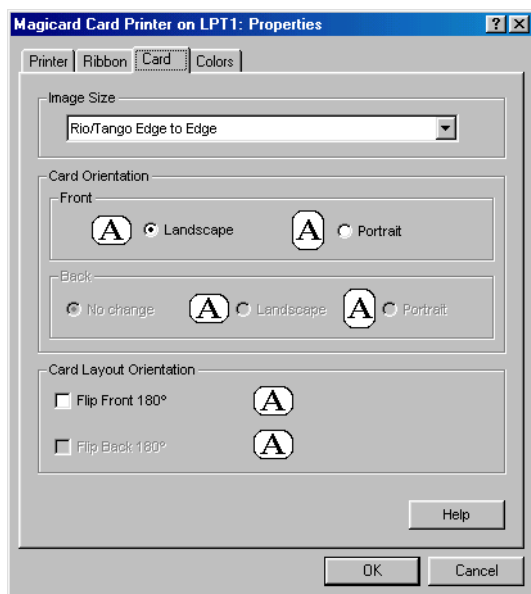

Figure 8: Printer Configuration Options – Card Tab
- Click on the Card Tab and a window with card layout options appears (see Figure 8).
*NOTE: Your choice between Portrait or Landscape orientation **must** match what you select under printer setup (see Figure 8 on page 8).*